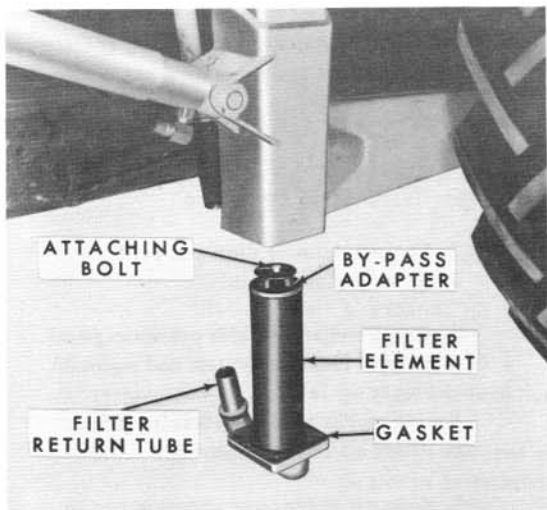

Figure 8
4. Remove the filter attaching bolt and bypass adapter shown in Figure 8. Discard the oil filter element and gasket.